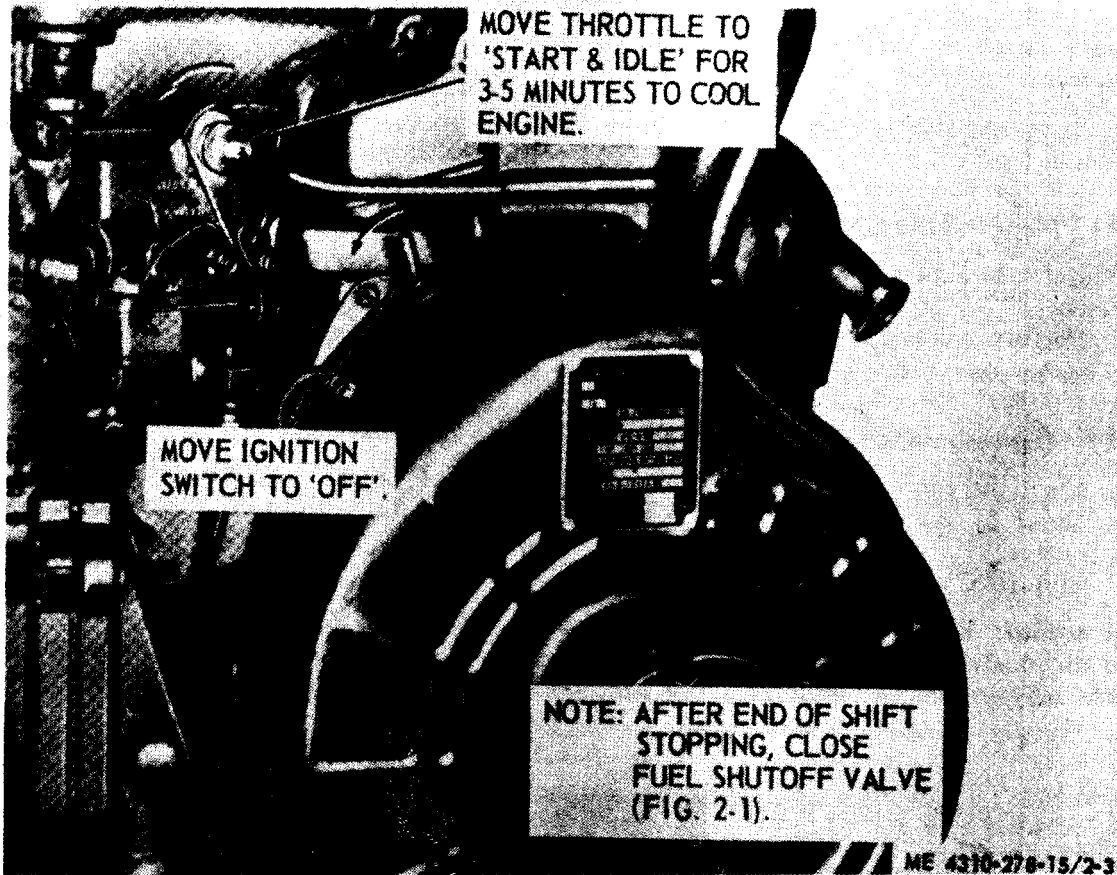

Figure 2-3. Stopping the compressor.
a. Refer to figure 2-3 and stop rotary compressor.